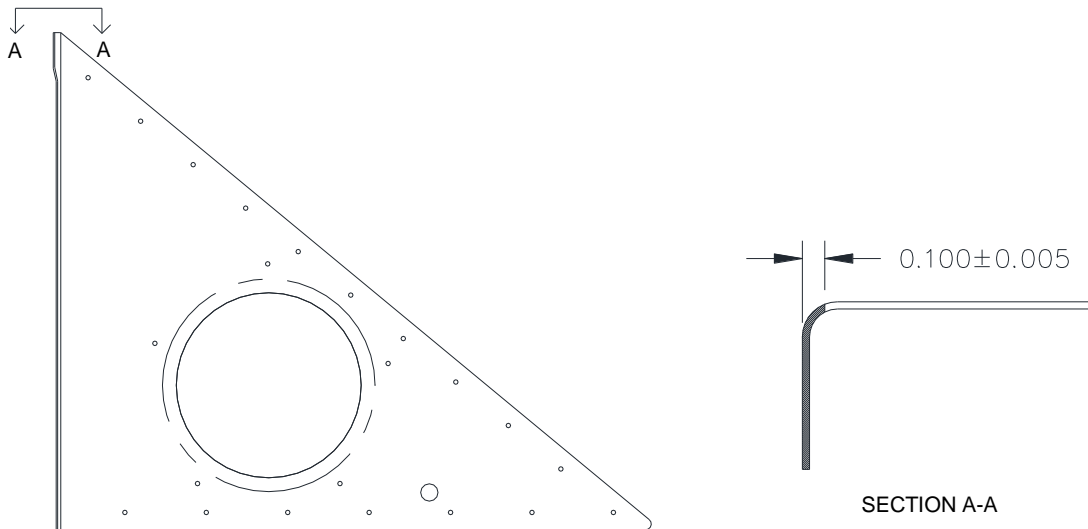

Figure 38: Cockpit Door Aft Gusset modification.
- 1) Trim the aft end of the Cockpit Door Aft Gusset(s) by 0.100" +/- 0.005" in the hatched area of Section A-A of Figure 38.